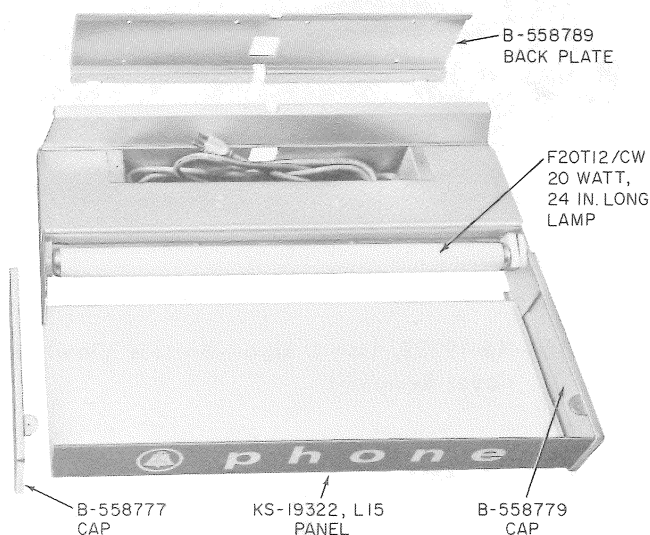

Fig. 13—Assembly of KS-19322 Sign
3.06 The backplate (Fig. 13) must be securely fastened to the mounting surface.
- (a) Remove the power cord through the hole in the rear wall of the cord storage compartment (Fig. 13).
- (b) Place end caps on sign panel (Fig. 13).